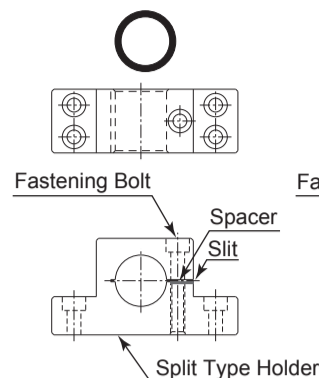
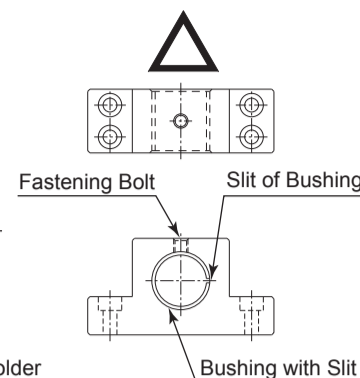

Fig. 9
Fig. 10
- When installing a Spindle to the holder, recommended installation method is shown Fig. 9. Refer to " ③ How to fabricate the Split Type Holder ". If this is not possible, install as shown in Fig. 10.